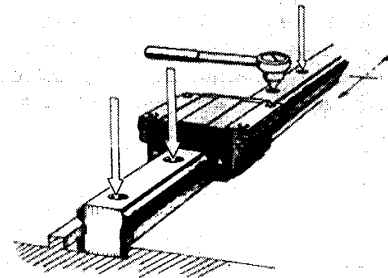

Fig. 18 Complete mounting bolt tightening
- 4) Tighten the mounting bolts with a torque wrench to the specified torque. (Refer to table 3 and Fig. 18.)